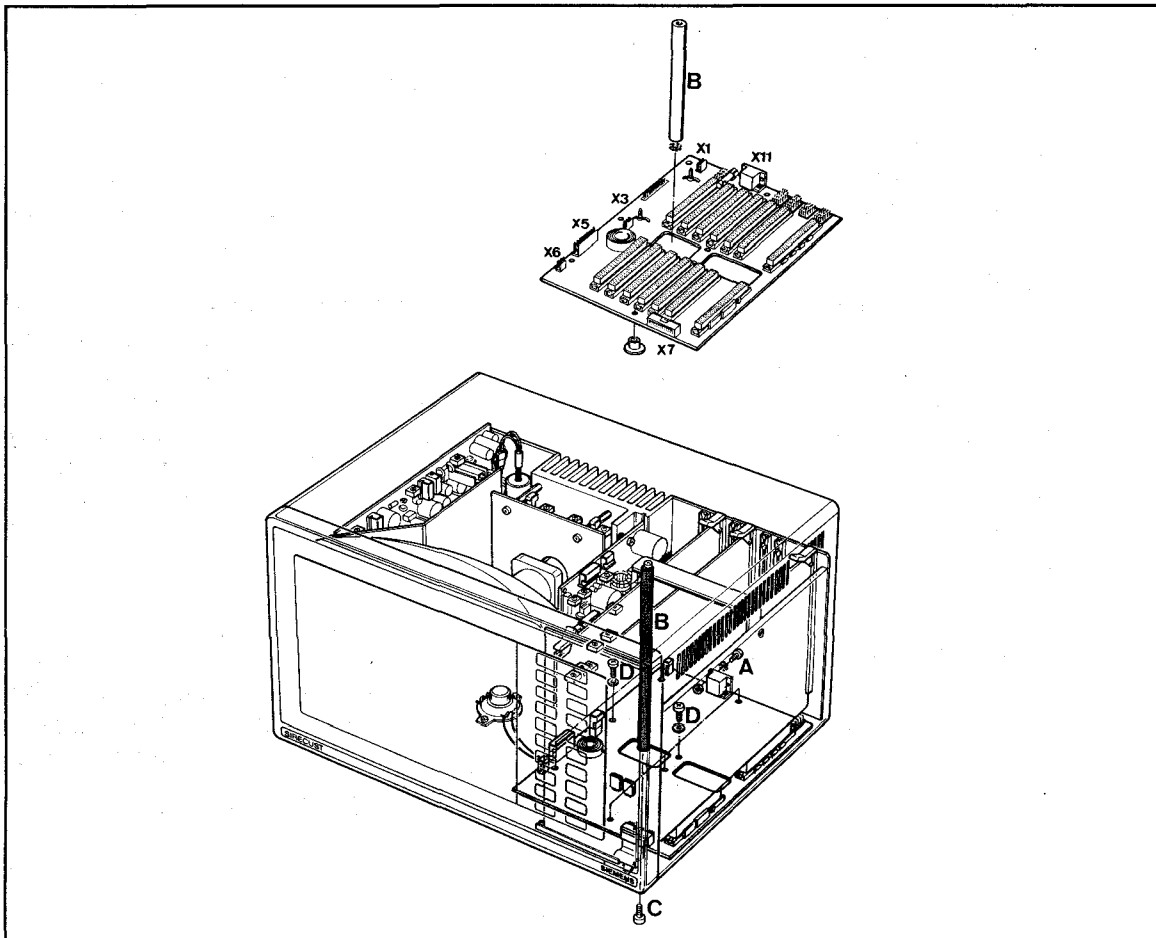

Figure 4-11. Location of Motherboard
Refer to Figure 4-11.
3. Insert Phillips-head screws with washers (D) into the seven mounting holes, and tighten the screws to secure the Motherboard to the monitor chassis. See Figure 4-11.